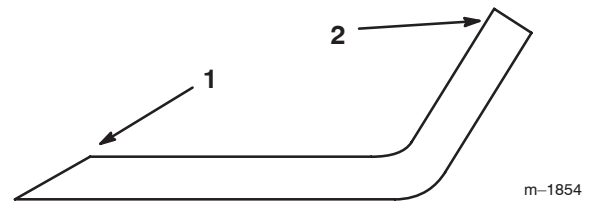
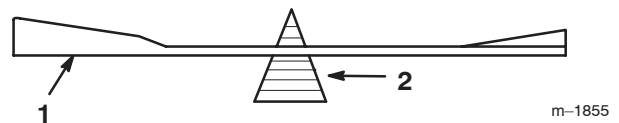

Figure 26
Figure 27
1. Use a file to sharpen the cutting edge at both ends of the blade (Fig. 26). Maintain the original angle. The blade retains its balance if the same amount of material is removed from both cutting edges.
2. Check the balance of the blade by putting it on a blade balancer (Fig. 27). If the blade stays in a horizontal position, the blade is balanced and can be used. If the blade is not balanced, file some metal off the end of the sail area only (Fig. 26). Repeat this step until the blade is balanced.